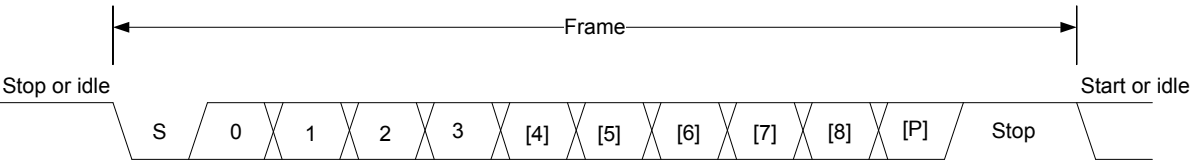

Figure 21.2. EUART Asynchronous Frame Format
The frame format used by the EUART consists of a set of data bits in addition to bits for synchronization and optionally a parity bit for error checking. A frame starts with one start-bit (S), where the line is driven low for one bit-period. This signals the start of a frame, and is used for synchronization. Following the start bit are 4 to 9 data bits and an optional parity bit. Finally, a number of stop-bits, where the line is driven high, end the frame. An example frame is shown in Figure 21.2 EUART Asynchronous Frame Format on page 602.